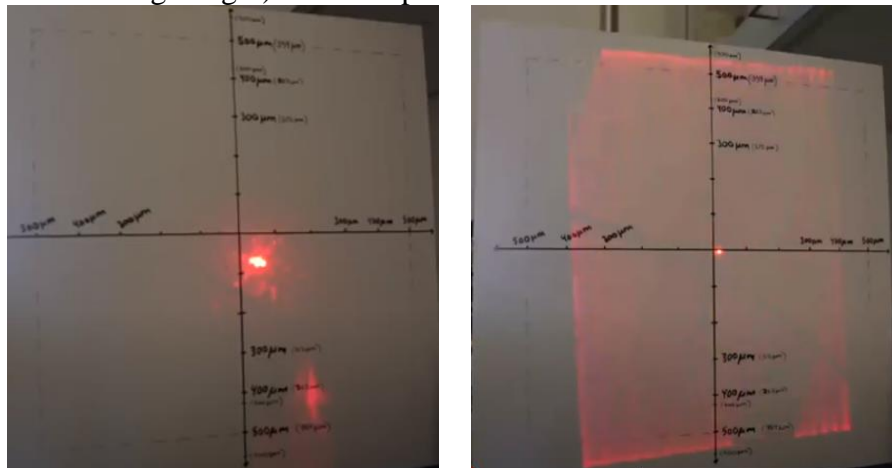

Fig. 6: (left) Red laser reflected from the MEMS mirror into a target; (right) MEMS scanning pattern.
2.4 Move the reflected beam to the center of the calibration target axis (see Fig.6-left).
2.6 The MEMS pattern should now appear on the calibration target (see Fig.6-right).
Note! In Fig.6-right) can be expected a FOV of around 400 μm x 400 μm